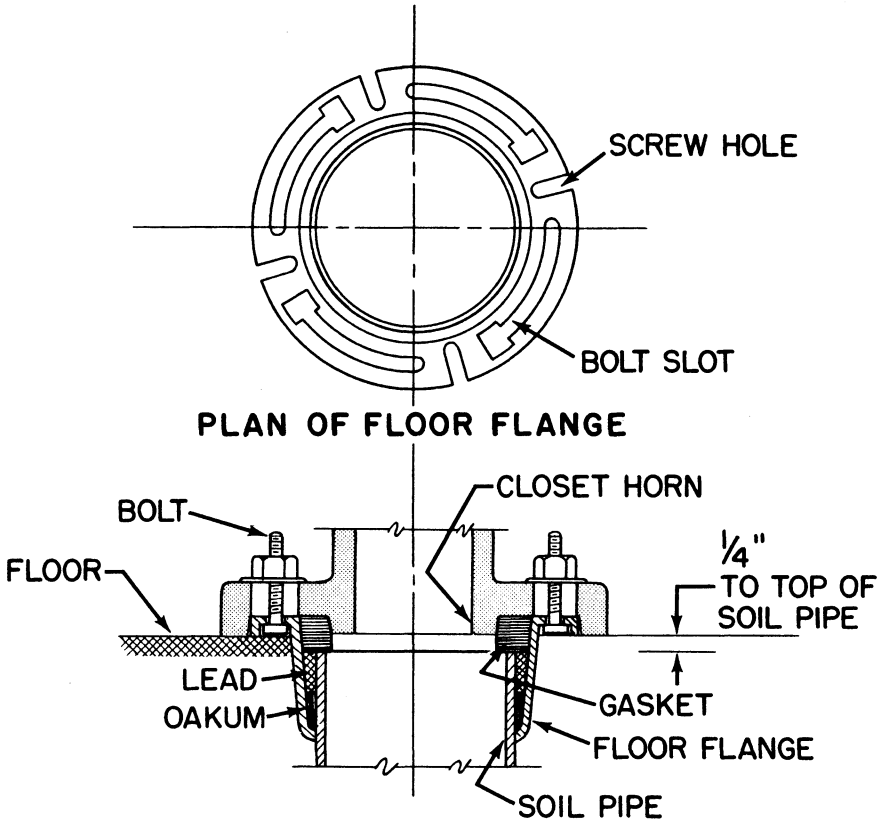

Figure 8.—Connection of water closet to floor and soil pipe.
- Carefully pry loose the bolt covers and remove the bolts holding the bowl to the floor flange (fig. 8). Jar the bowl enough to break the seal at the bottom. Set the bowl upside down on something that will not chip or break it.